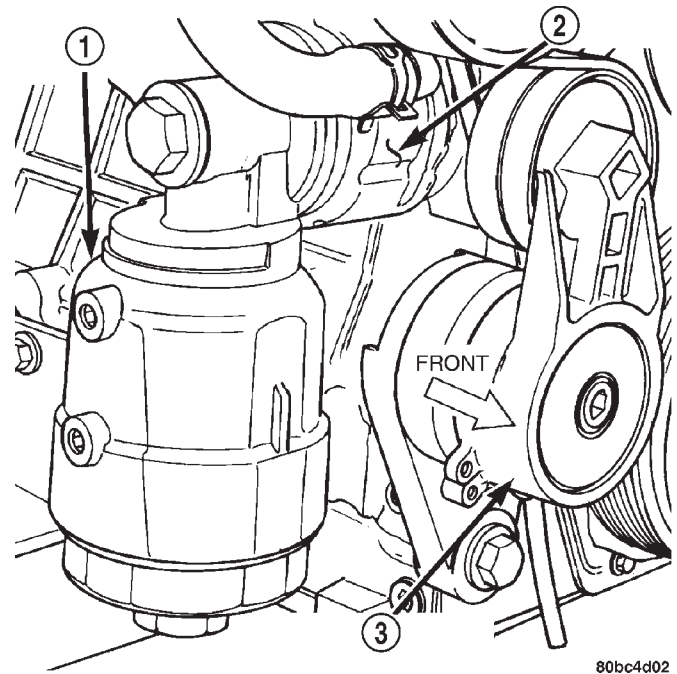

Fig. 89 Oil Filter Housing
- (1) Disconnect the negative battery cable.
- (2) Remove the oil cooler coolant hoses.
- (3) Remove the oil filter housing/oil cooler retaining bolt (Fig. 89).